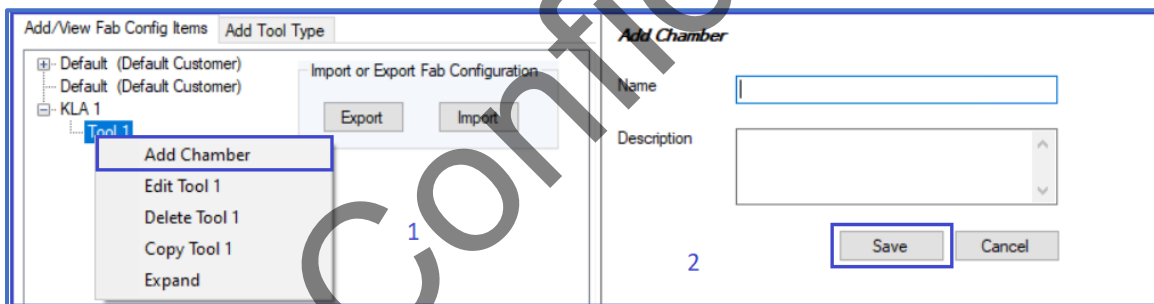

Figure 5-14 To add new chamber
- 12. Right-click on the newly created **Tool** and then click on **Add Chamber** to add a new Chamber. You can see the **Add Chamber** section will open, as shown in Figure 5-14.